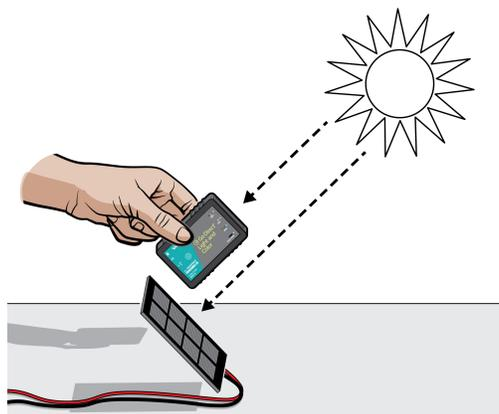

Figure 3
14. Tilt the solar panel so it is facing directly toward the sun. Hold the Light Sensor facing toward the sun, next to the solar panel, as shown in Figure 3.